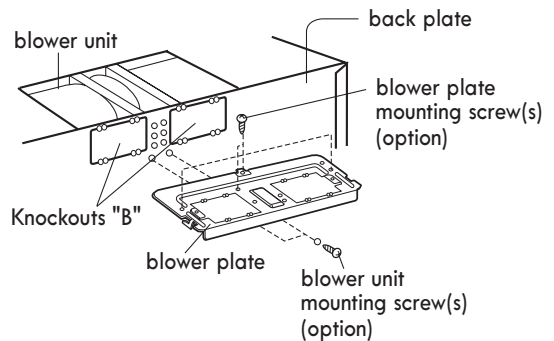

Figure 12
1. Remove blower unit mounting screw(s) and blower plate screw(s). Remove the blower plate from cabinet. See Figure 12.